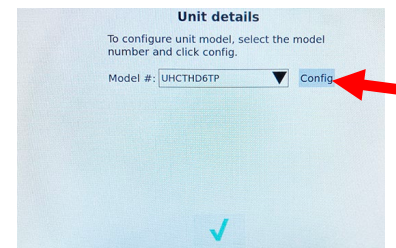

Figure 18
- h) Once the model is selected, press the **Config** button (see Figure 18).